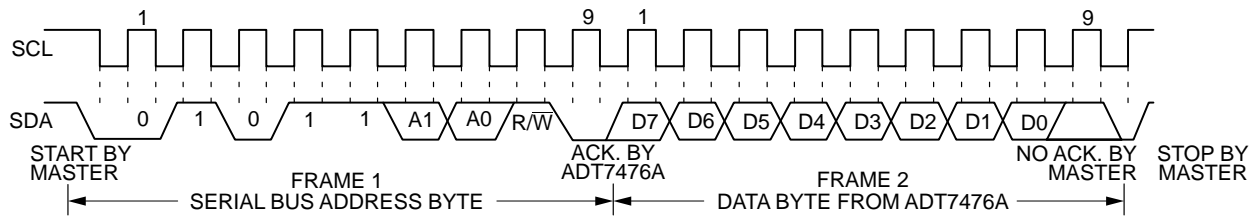

Figure 20. Reading Data from a Previously Selected Register
A read operation is then performed consisting of the serial bus address; R/W bit set to 1, followed by the data byte read from the data register (see Figure 20.)
2. If the address pointer register is already known to be at the desired address, data can be read from the corresponding data register without first writing to the address pointer register (see Figure 20).